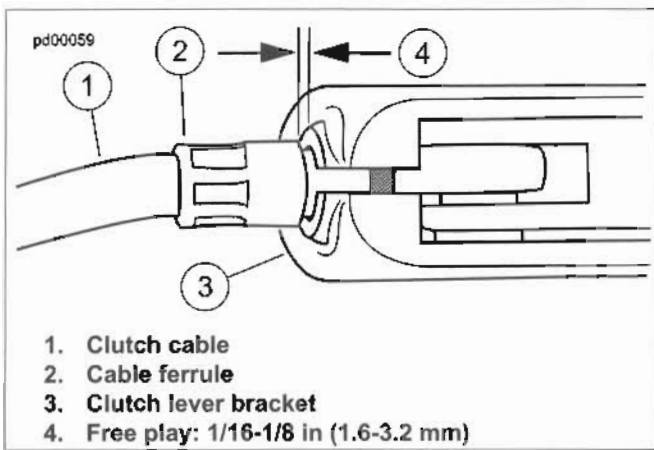

Figure 1-18. Clutch Cable Free Play
- b. See Figure 1-18. Pull clutch cable ferrule (2) away from clutch lever bracket (3) to check free play. Turn cable adjuster as necessary to obtain 1/16-1/8 in. (1.6-3.2 mm) free play between end of cable ferrule and clutch lever bracket.